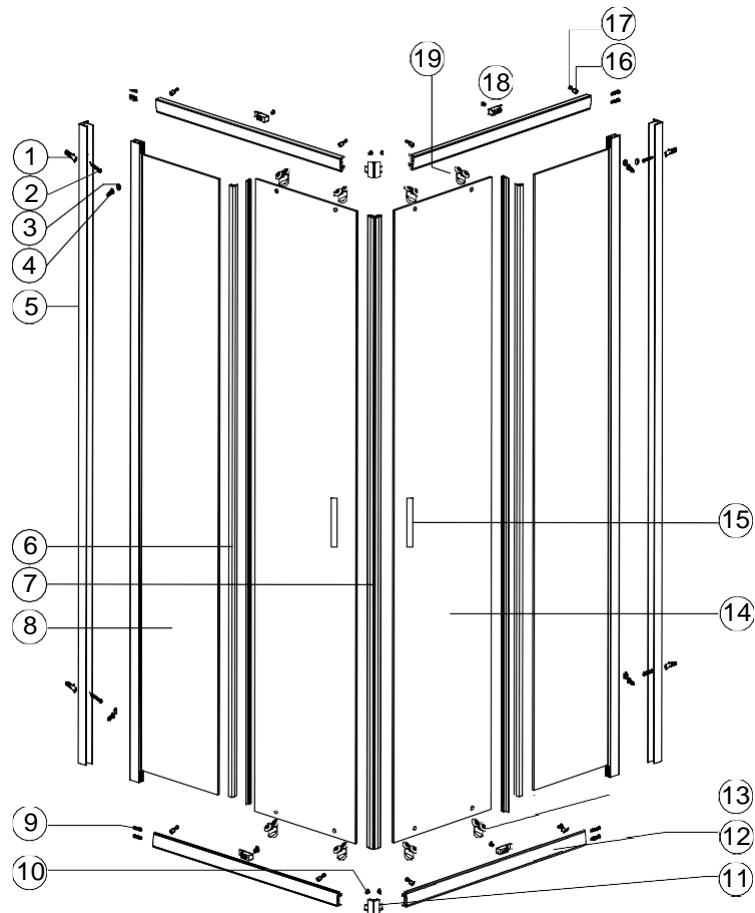

Figure 1
STEP 3: Position the frame on the wall with the corner connectors: To connect the corners use piece no. 11 (corner connector) and piece no. 10 (4 x screws 3.9 x 13) as shown in Figure 1
Fix the glass using (8) glass clamps and (9) 3.9x13 screws as shown in figure 1
2. Connect the (19) (as shown in Figure 1) 4 x double clip wheels with the upper part in the upper part which are adjustable with the lower part of the sliding doors.